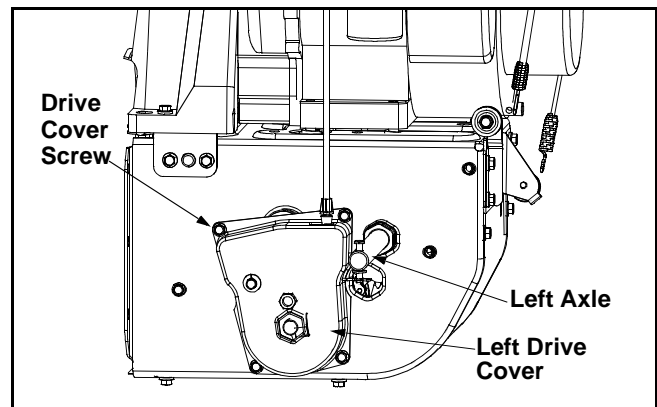

Figure 15
- Remove the four screws securing the left drive cover to the frame. Remove the drive cover. See Figure 15.